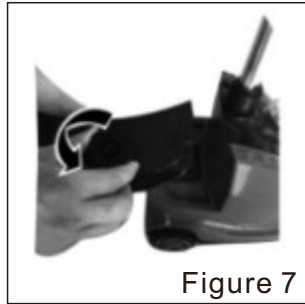
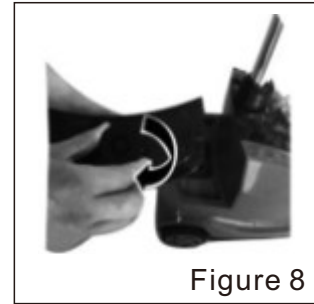

Figure 7
Figure 8
⑦ Screw the water tank knob anti-clockwise (Figure 7), inject clean cold water into the water tank, and tighten the water tank knob clockwise as shown in Figure 8.